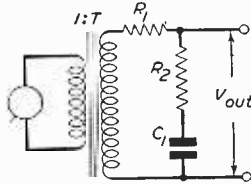
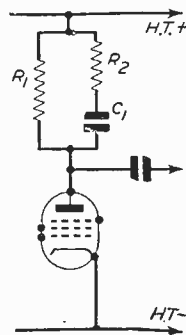

Fig. 9.—A practical form of Fig. 8.
Fig. 11.—An alternative form of "bass lift" circuit.
As a numerical example, we will calculate the values of R_1 , R_2 and C_1 required in the gramophone pick-up equalizer shown in Fig. 9. The network must provide about 15 db. of "bass lift" at 50 c/s and the lift should begin at about 300 c/s. The pick-up is designed to work into a certain load and to satisfy this requirement we will assume that the load on the transformer secondary winding must be 100,000 Ω . From expression (2) R_1 must be four times R_2 to give 15 db. of "bass lift." Over most of the audio-frequency range the reactance of C_1 is small compared with R_1 and the secondary load may be taken as $(R_1 + R_2)$. This total must equal 100,000 Ω and the value of R_1 is 80,000 Ω and R_2 20,000 Ω . The bass boost is required to begin at 300 c/s and C_1 must have a reactance of 20,000 Ω at 300 c/s. From a reactance chart the necessary value of C_1 is 0.025 μF . There is no simple way of calculating the response curve given by this
An alternative bass-lift circuit is given in Fig. 11. This shows frequency correction carried out in the anode circuit of the gramophone pre-amplifier. Its operation may be explained in the following way. At very low frequencies the reactance of C_1 is very large and the anode load of the valve is nearly equal to R_1 ; at very high frequencies the reactance of C_1 is very small and the anode load is nearly equal to R_2 . R_2 is one-quarter of R_1 and the gain of the pentode tends to be directly proportional to the load resistance; thus the gain is greater at low frequencies than at high ones. This circuit has the advantage over that of Fig. 9